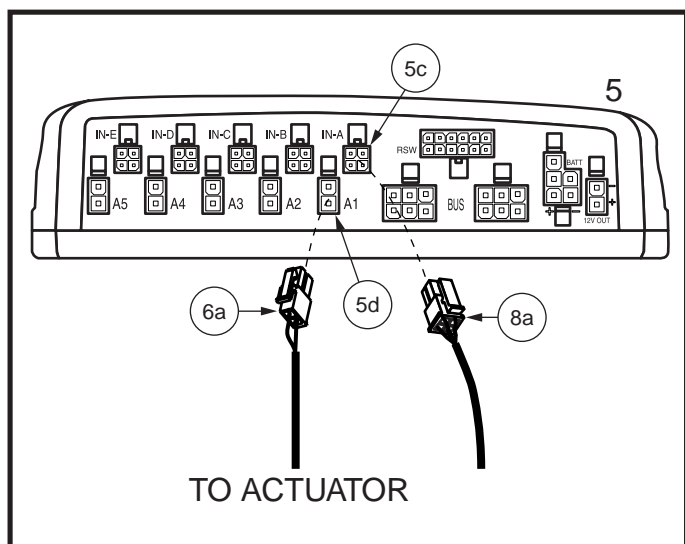

Figure 8. Connector 6a and AAM
1. Unplug 8a from connector 5c on the AAM. Try to tilt the chair. **See figure 8.**
- *If the chair tilts*, replace the left anti-pinch switch (9).
- *If the chair tilts*, replace the right anti-pinch switch (10).
- *If the chair does not tilt*, replace the anti-pinch “Y” harness (8).
4. Unplug connector 6a from connector 5d on the AAM (5). **See diagram 3 and figure 8.**